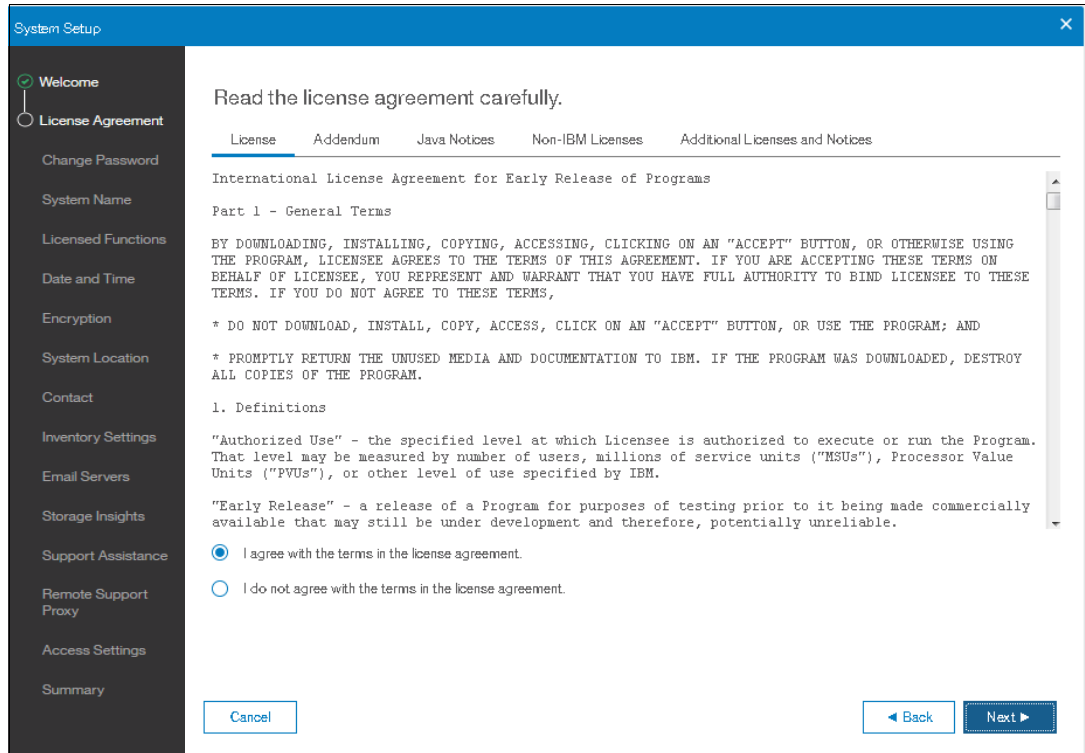

Figure 2-24 Setup wizard: License agreement
4. Accept the license agreement after reading it carefully, as shown in Figure 2-24. Click **Next**.